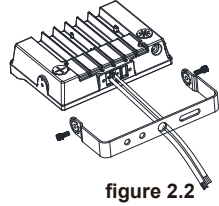

figure 2.2
- Step 2: Tighten the brackets and screws. (figure 2.2)